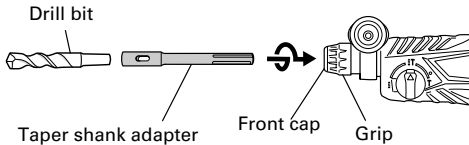
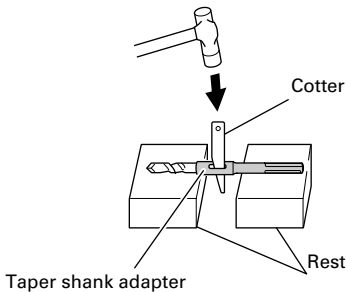

Fig. 15
Fig. 16
- (1) Mount the taper shank adapter to the rotary hammer (Fig. 15).
(2) Mount the drill bit (taper shank) to the taper shank adapter (Fig. 15).
(3) Turn the switch ON, and drill a hole in prescribed depth.
(4) To remove the drill bit (taper shank), insert the cotter into the slot of the taper shank adapter and strike the head of the cotter with a hammer supporting on a rests (Fig. 16).